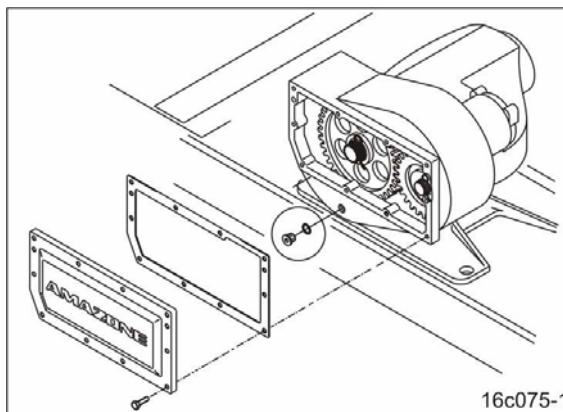

Fig. 157
7. Remove the retaining springs (Fig. 157/1).